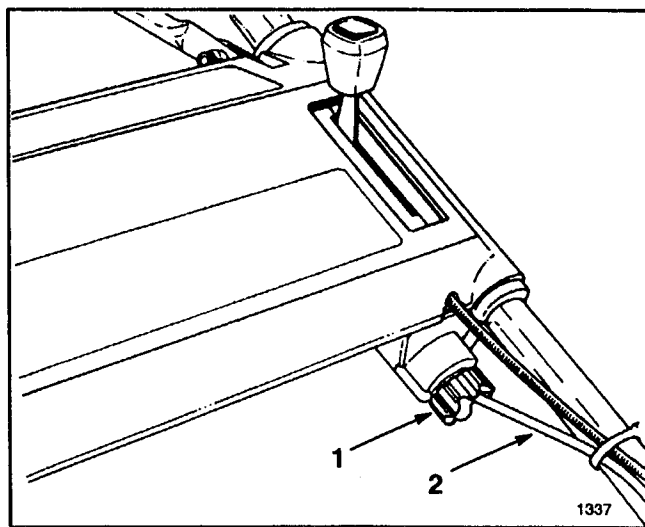

Figure 23
2. Rotate adjustment knob (Fig. 23) 1/2 turn clockwise to tighten drive belt or 1/2 turn counterclockwise to loosen belt. Hold control cable while rotating to prevent cable from turning.